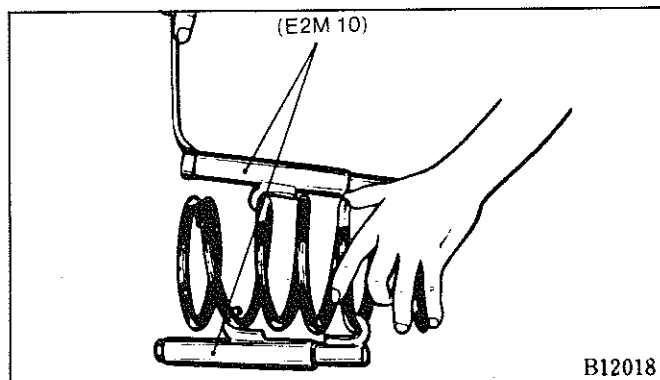

Fig. 14—Compressing the coil spring
(8) Install special tool Spring Compressor (E2M 10) on the coil spring to compress the spring as shown in Fig. 14 and after having fully compressed the spring, install it on the strut sub-assembly.